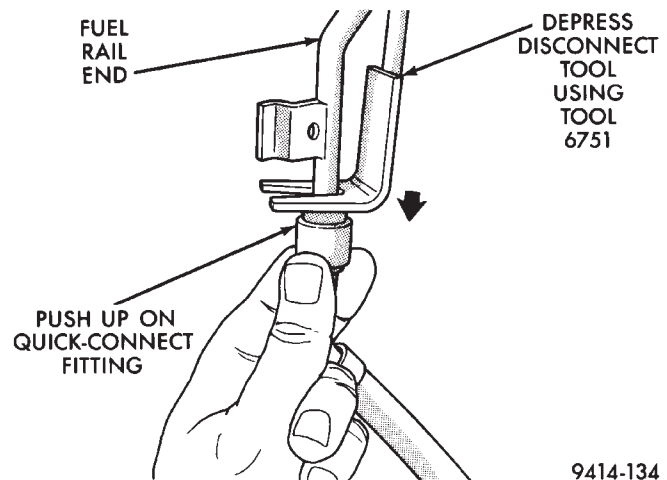

Fig. 57 Disconnecting Quick-Connect Fittings at Fuel Rail
- (4) At the fuel rail, push the quick connect fitting toward the fuel tube while depressing the built-in disconnect tool with special tool 6751. To disconnect fitting from fuel rail, slightly twist the fitting and while maintaining downward pressure on special tool 6751 (Fig. 57).
- (5) Cover the fitting to prevent contamination.